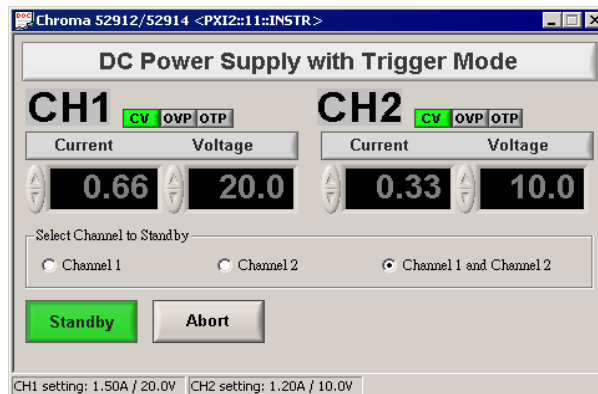

Figure 4-15 Example After Receiving a TTL0 trigger
Step3: At this time, you need to generate a TTL0 trigger. After receiving the TTL0 trigger. The skin changed as Figure 4-15.